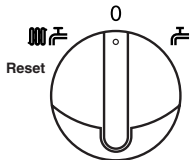

Fig. 22
1. **For short periods:** Turn the selector switch to the OFF position (Fig. 22).
2. **For long periods:** Turn off the selector switch (Fig. 22), electricity and gas supplies.